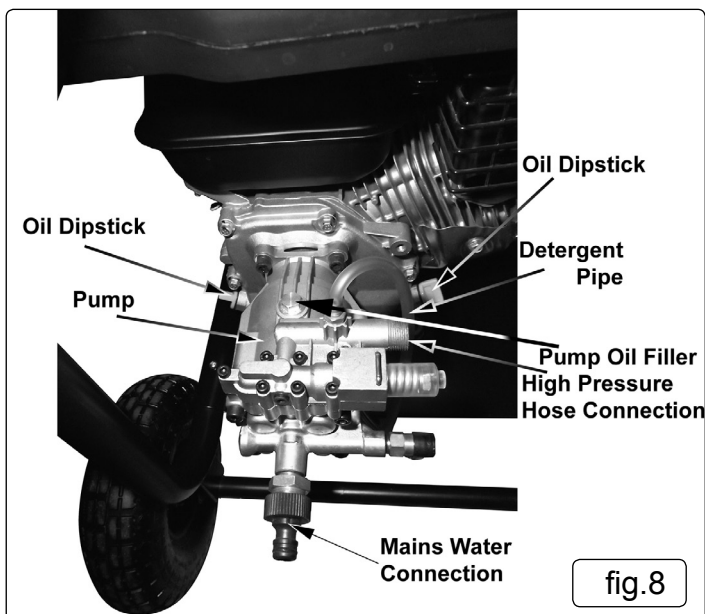

fig.8
- 5.7.1. Remove oil tank dipstick (fig.8) and wipe it with a clean cloth.
- 5.7.6. Check the pump oil level by removing the pump filler cap (fig.8). The pump should be topped up with 10w-30oil (the oil capacity of the pump is 0.5ltr).